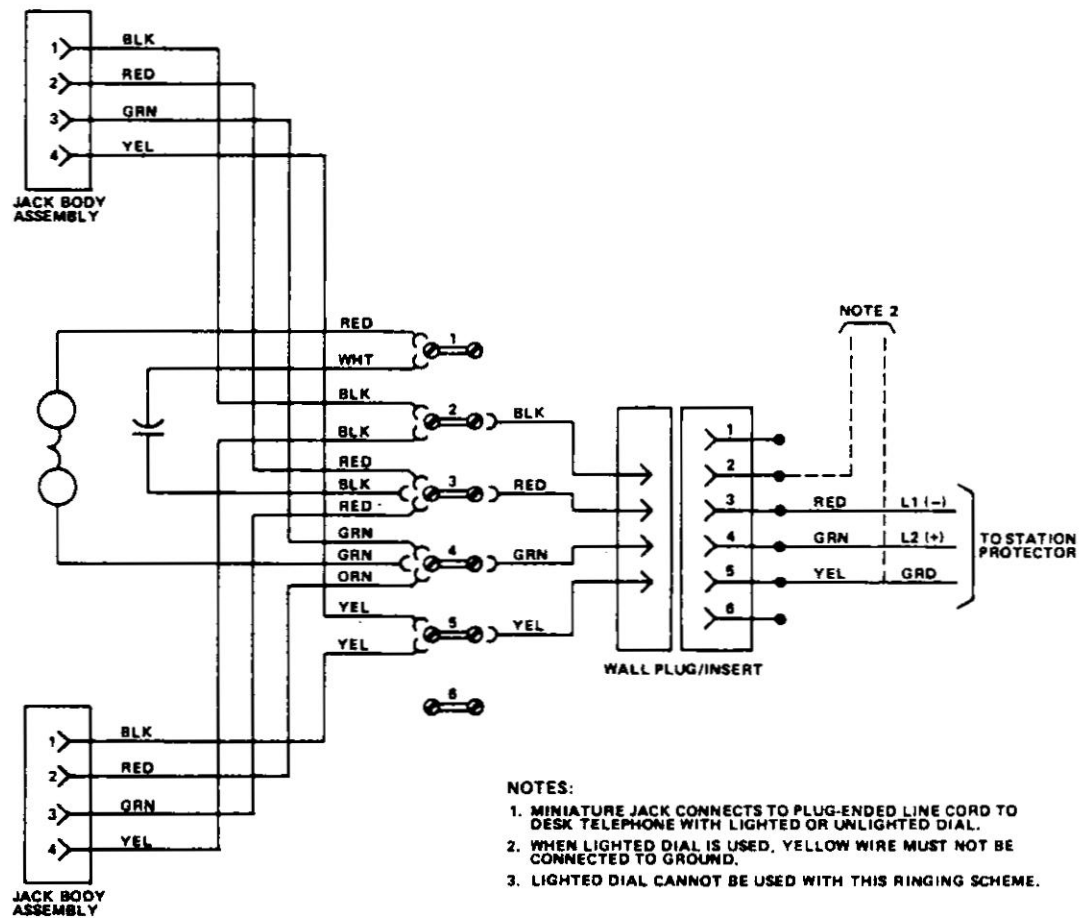

Figure 6. Wiring Diagram For Bridged Ringing.
3.03 The ringer box is wired from the factory for bridged ringing (Figure 6). If other ringing schemes are required refer to Table 1.